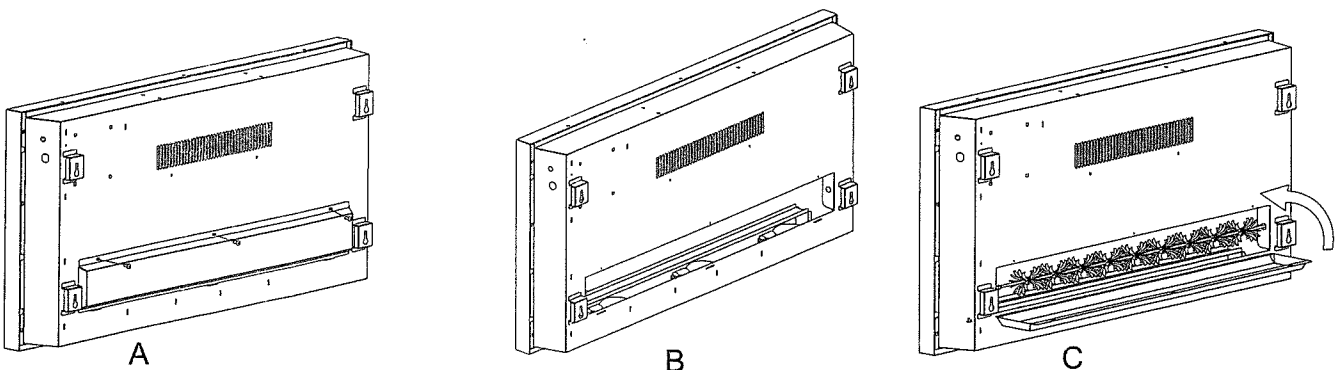

Figure 7
3. Remove 3 screws on the service window panel. (Figure 7. A)
Hand tighten the bulbs only - do NOT over tighten. (Figure 7. B)
6. Place the service window panel to the original position and tighten it by 3 screws (Figure 7. C)